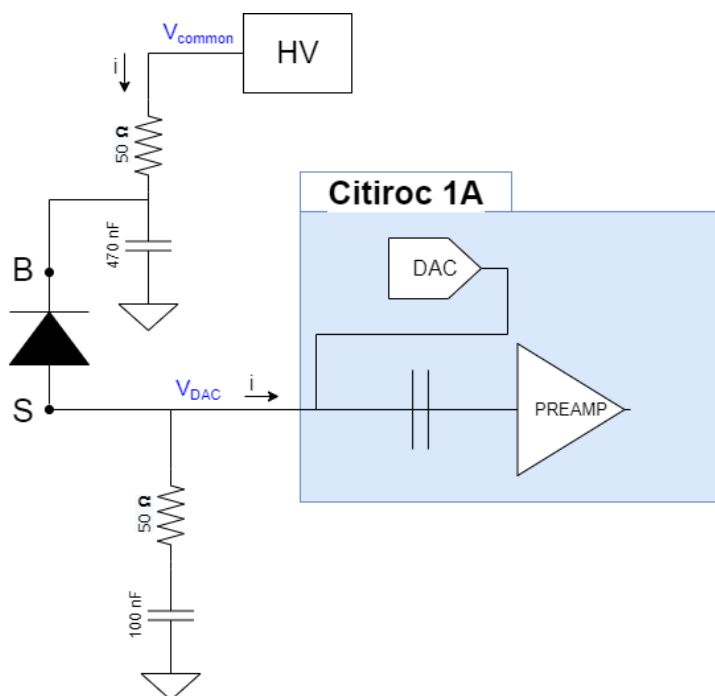

Figure 10.3: SiPM connection scheme to the ASIC and biasing lines
The SiPM bias is provided onboard by the CAEN A7585D Power Supply module, which is extremely low noise (no additional filters needed). The bias lines for SiPMs are grouped eight by eight and connected to the A7585D through a 50 Ω resistance in series, as shown in **Figure 10.3**: SiPM connection scheme to the ASIC and biasing lines. The provided PCB adapter, instead, is equipped with independent filters for each bias line to be fed into the SiPMs.
Since the A7585D feeds the SiPM cathodes with positive high voltage bias (B), the anodes of SiPMs are independently connected to the ASIC input lines (S), accepting positive signals (see **Figure 10.3**). At the ASIC input stage, an 8-bit DAC allows to perform a fine tuning of the bias, individually for each SiPM channel. The voltage can be adjusted in the range 0-4.5 V. This is important in particular to tune the gain of each element, especially when connecting single SiPMs, which can have a spread on the breakdown voltage up to 400 mV. Increasing the DAC value has the effect of lowering the effective bias voltage on the SiPM.